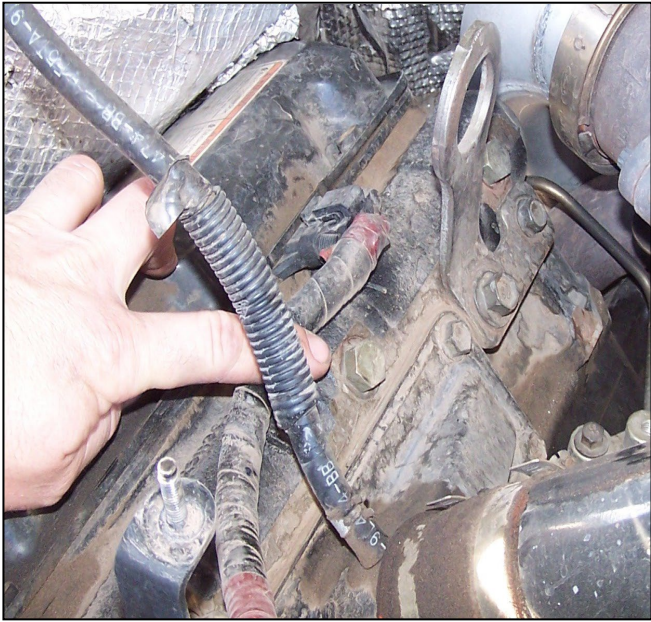

Fig. 1 - Passenger Side Oil Rail Plug
1. Locate the High Pressure Oil Rail Plugs that are over cylinder #4 (driver side) and #5 (passenger side). They will be the 2nd Plug from the front on the driver side and the 3rd Plug from the front on the passenger side. Figures 1 and 2 show their locations.